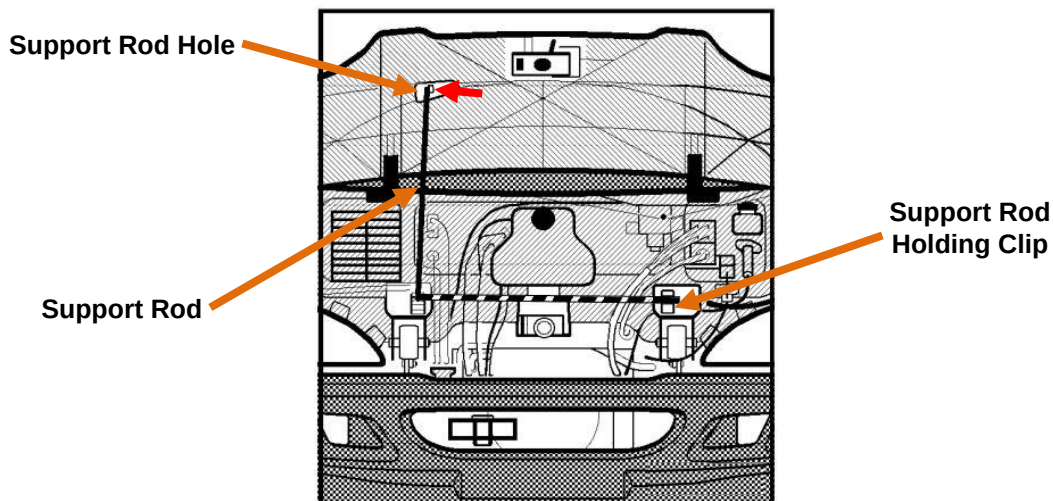

Figure 10.11
- Remove the Support Rod from the holding clip and insert the free end into the Support Rod hole in the frame of the hood. Check to make sure Rod is secure. (Figure 10.11)